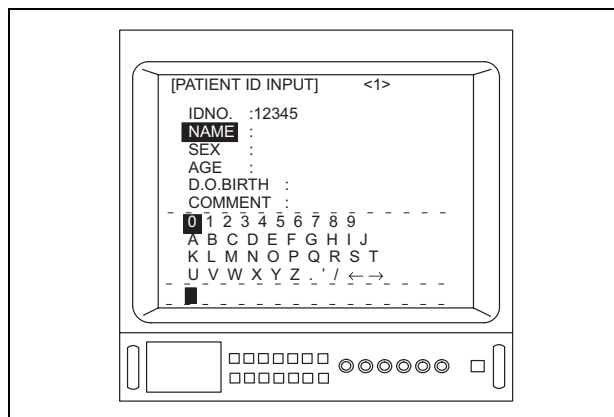

Figure 5.45
7. Depress the menu switch “←” or the “Enter” key on the keyboard to enter the patient’s name (see Figure 5.45).